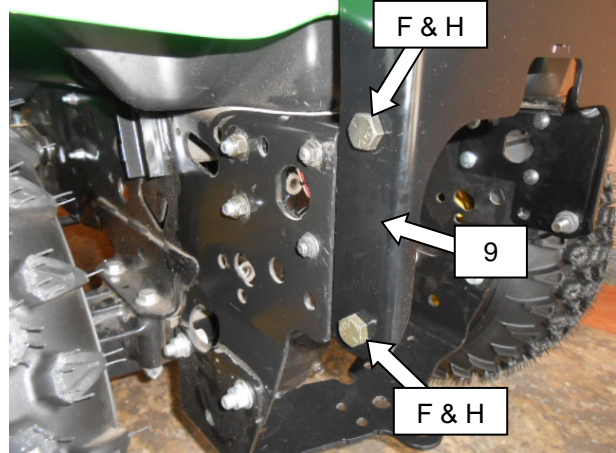

Figure 5
- 9) Secure rear mount weldment (9) to the rear mount plates (6) using **(Figure 5)**;